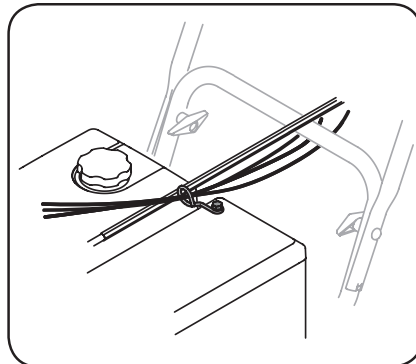

Figure 2-28
9. Check that all cables are properly routed through cable guide on top of engine. See Figure 2-28.
10. Check that all cables are properly routed through cable guide on top of engine. See Figure 2-28.
7. Check that cables are properly routed through cable guide on top of engine. See Figure 2-28.